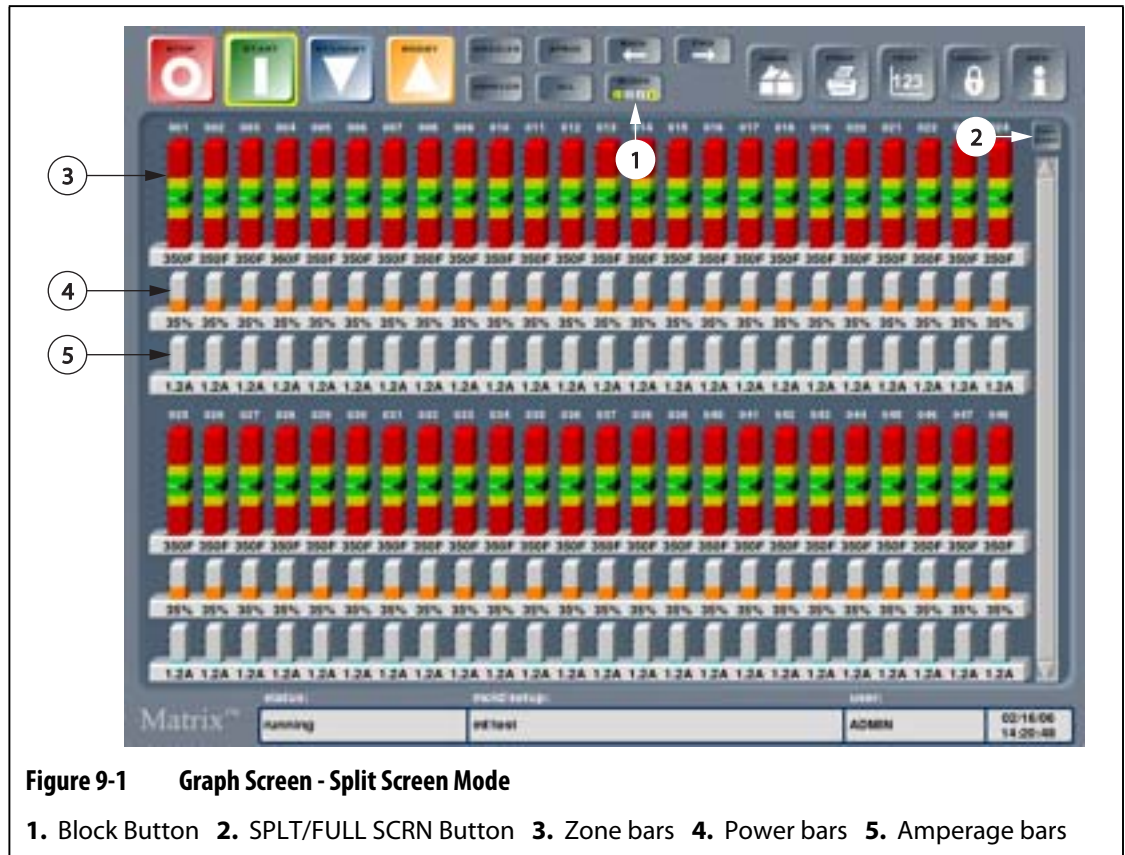

Figure 9-1 Graph Screen - Split Screen Mode
1. Touch BLOCK. Refer to Figure 9-1.